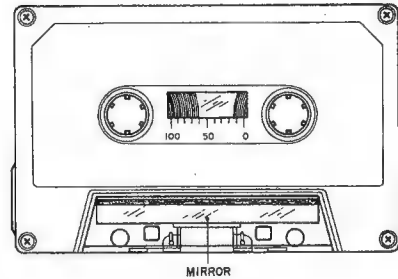

Fig. 12
- 1) When using an ordinary cassette, the tape guides and heads, etc. are not visible. As shown in Fig. 12 use a cassette tape from which part of the cassette case has been cut out and a mirror installed for easy visibility of the head area when making tape guide height adjustment.
4. When a mirror installed cassette test tape as shown in Fig. 12 is required, it can be ordered from AKAI Electric Co.